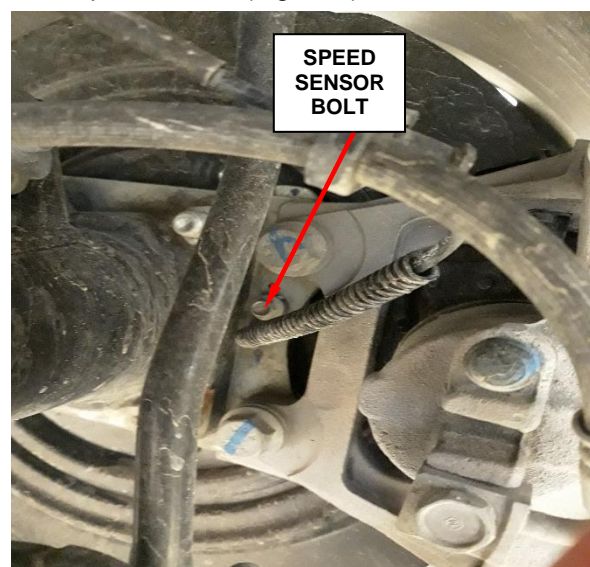

Figure 5 – Speed Sensor
7. Remove the wheel speed sensor bolt and remove the wheel speed sensor (Figure 5).